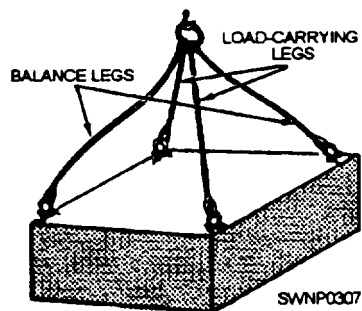

Figure 6-60.—Multi-legged bridle sling lifting a load.
18. When using a multi-legged bridle sling, do not forget it is wrong to assume that a three- or four-leg hitch will safely lift a load equal to the safe load on one leg multiplied by the number of legs. With a four-legged bridle sling lifting a rigid load, it is possible for two of the legs to support practically the full load while the other two only balance it (fig. 6-60).